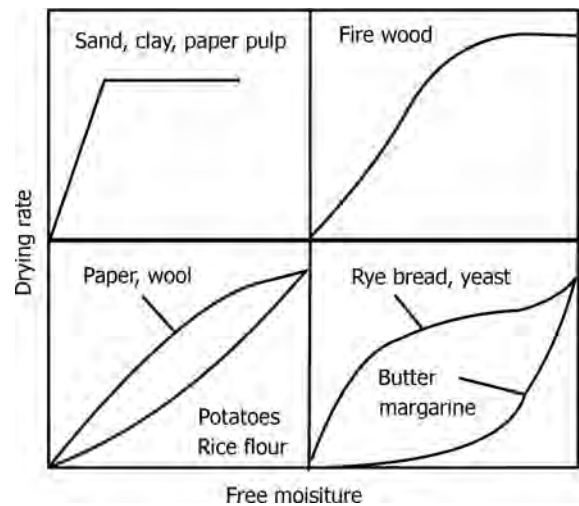

FIGURE 18.26 Examples of normalized drying rate curves for some typical materials.
- The following are normalized drying rate curves for some typical materials (Figure 18.26).